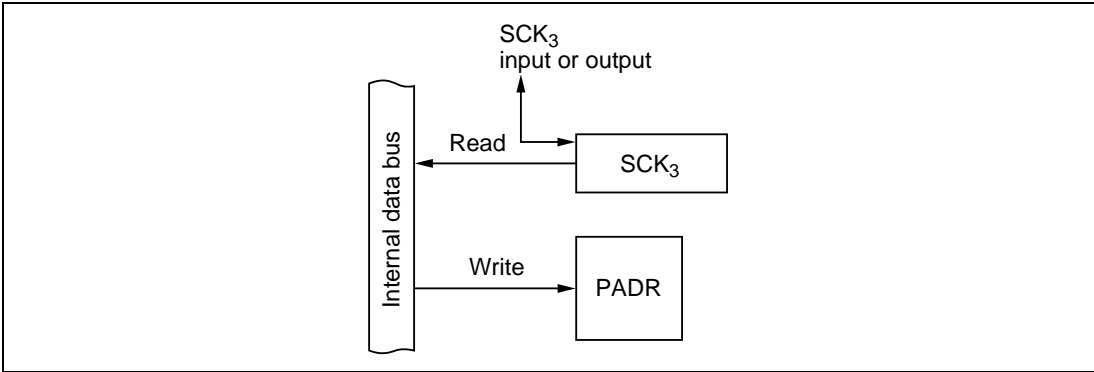

Figure 10-72 SCK₃ Pins (Modes 1, 2, 4, 6, and 7)
(10) **SCK₃ Pin (PA₃: Modes 1, 2, 4, 6, and 7):** Figure 10-72 shows a block diagram illustrating the SCK₃ input/output function. Table 10-55 indicates register read/write data. When PA₃ is used for SCK₃ input or output, the value written in PADR is ignored, but PADR can be read to monitor the level at the SCK₃ pin.